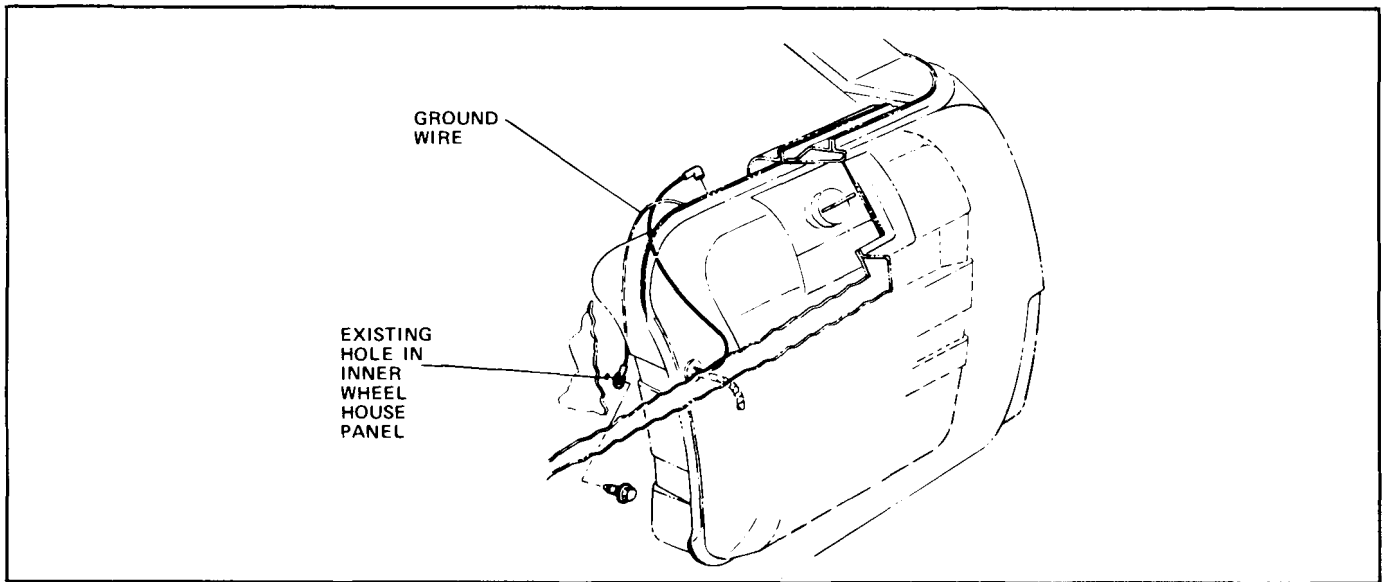

Fig. 8-32 Fuel Tank Gage Unit Wiring (B Series Station Wagon)
9. Remove screw retaining ground wire (Fig. 8-32 and 8-33).